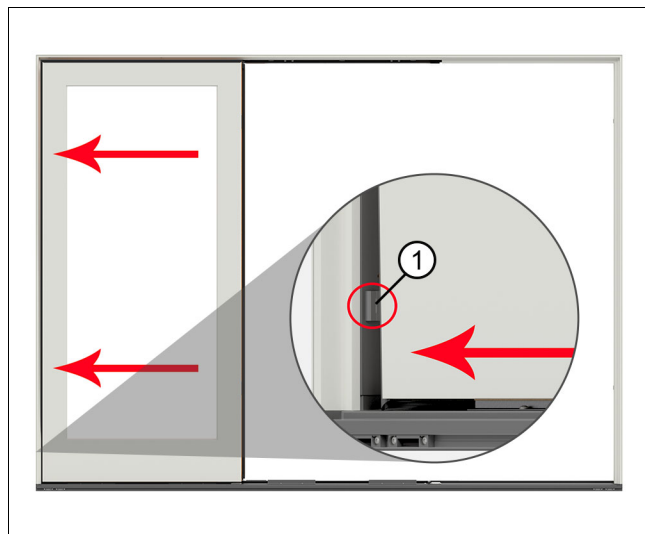

Figure 50
5. Slide the panel past the aluminum parting stop to the jamb. Now push the panel in until it contacts the wood parting stop. Clips at the head jamb will hold the panel in place and aid in alignment. See Figure 50.